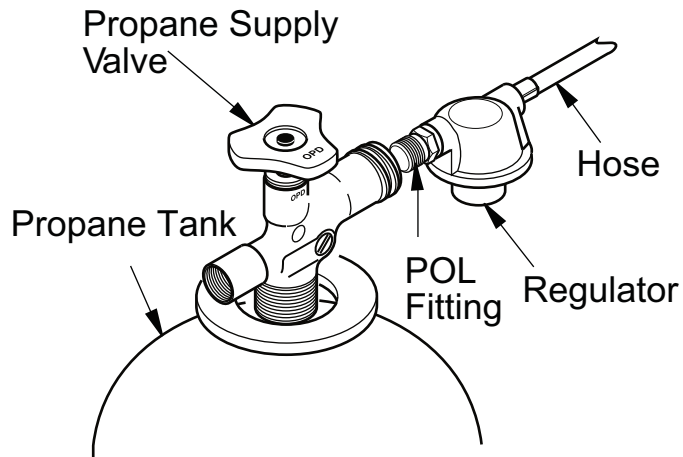

Figure 1 - Connecting Regulator To Propane Tank
2. Connect fuel gas connector fitting on hose/regulator assembly to propane tank(s). Turn counterclockwise into threads on tank valve. Tighten firmly using wrench. (Fig.1)